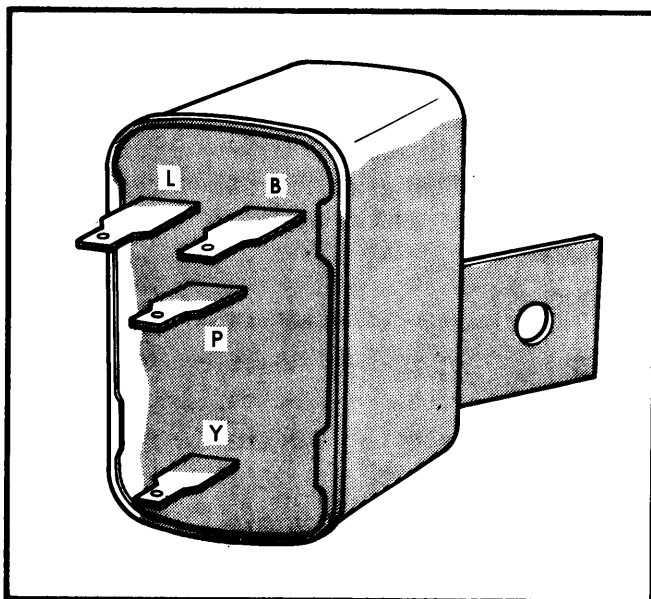

Fig. 1 Timer Relay Connections
**System Test** — 1) Check that in-line fuses or circuit breakers are operational and supply power. With rear window grid lines disconnected, turn ignition switch on and check voltage at relay terminals. Terminals "B" and "Y" should have voltage and terminals "L" and "P" should not have voltage (see Fig. 1).